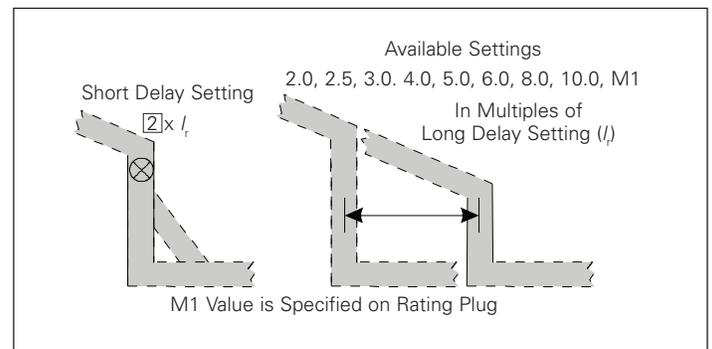

**Figure 32. Long Time Memory (LTM) Jumper**
**Notes:** In addition to the standard long delay protection element, trip units also have a Long Time Memory (LTM) function, which protects load circuits from the effects of repeated overload conditions. If a breaker is reclosed soon after a long delay trip, and the current again exceeds the long delay setting, ( $I_L$ ), the LTM automatically reduces the time to trip to allow for the fact that the load circuit temperature is already higher than normal because of the prior overload condition. Each time the overload condition is repeated, the LTM causes the breaker to trip in a progressively shorter time. When the load current returns to normal, the LTM begins to reset; after about 10 minutes it will have reset fully, so the next long delay trip time will again correspond to the setting value. In certain applications, it may be desirable to disable the LTM function. Open the test port located at the lower left-hand front of the trip unit and use small, long nose pliers to move the LTM jumper inside the test port (see **Figure 32**) to its inactive position. (The LTM function can be enabled again at any time by moving the LTM jumper back to its original active position.)